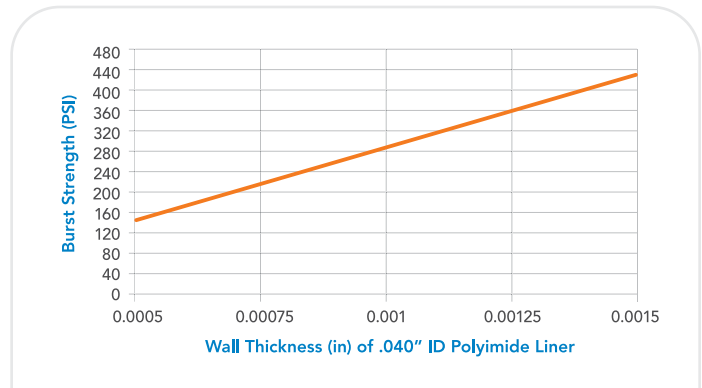

FIGURE 2. INTERNAL BURST STRENGTH AS A FUNCTION OF POLYIMIDE WALL THICKNESS:
- Polyimide acts as the structural “backbone” and a pinhole-free liner that will contain the fluid pressure when the balloon is inflated. (See Figure 2.) The polyimide—along with the wire braiding—also helps to provide push and transmit torque.